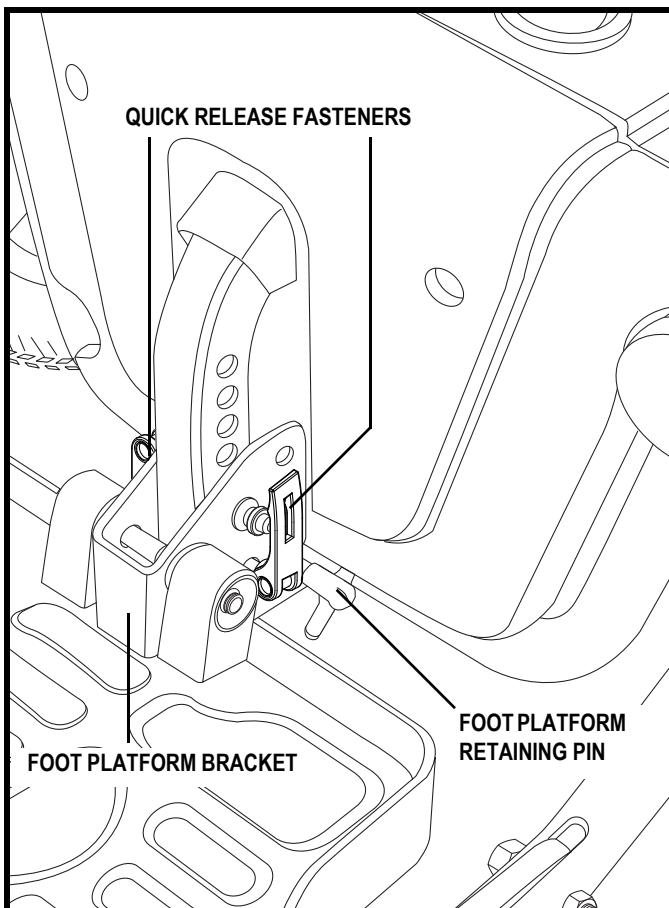
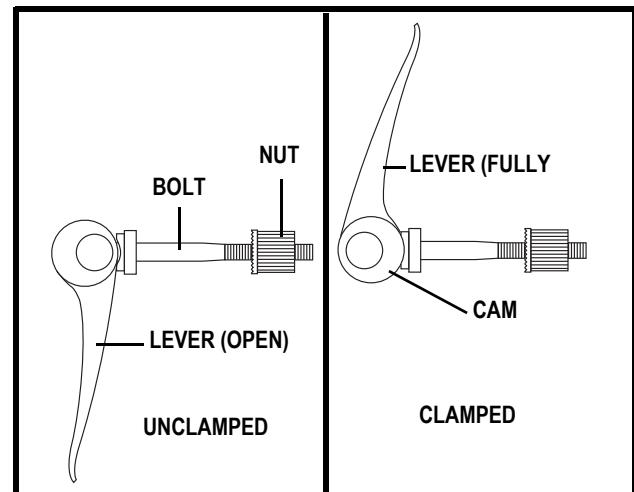

Figure 20. Foot Platform Adjustment
Figure 21. Quick Release Fastener Operation
1. Remove the quick release fasteners from the foot platform bracket. See **figure 20**.
1. Remove the fasteners from the foot platform bracket. See **figure 20**.
Quick Release Fasteners: The foot platform is attached to the power base with two quick release fasteners. **See figure 20.** Each quick release fastener consists of a bolt, a lever, and a nut. **See figure 21.** The lever has a cam on the end that allows it to clamp into place. The quick release fastener has two states: clamped and unclamped. When the lever is open, the quick release fastener is unclamped. When the lever is closed, the quick release fastener is clamped.